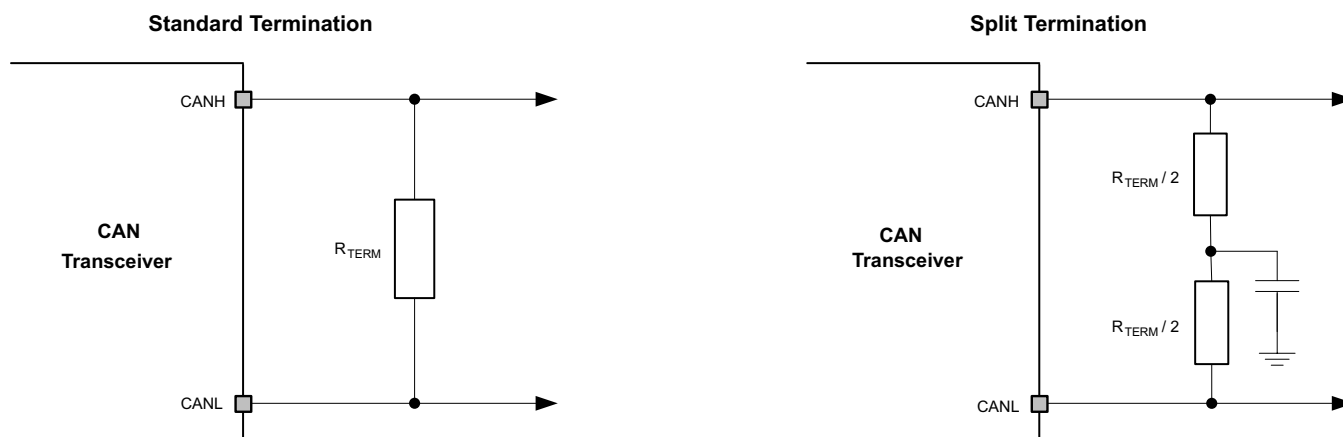

Figure 22. CAN Termination Schematic
Termination is typically a 120- Ω resistor at each end of the bus. If filtering and stabilization of the common-mode voltage of the bus is desired, then split termination may be used (see Figure 22 and Using SPLIT With Split Termination).
- Bus termination: Figure 22 shows split termination. This is where the termination is split into two resistors, R5 and R6, with the center or split tap of the termination connected to ground through capacitor C6. Split termination provides common-mode filtering for the bus. When termination is placed on the board instead of directly on the bus, care must be taken to ensure the terminating node is not removed from the bus as this causes signal integrity issues if the bus is not properly terminated on both ends.